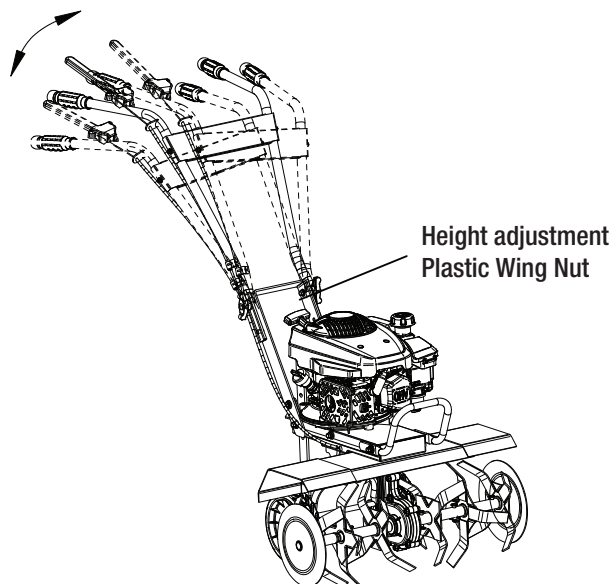

Figure 1-8.
- To adjust the tiller height, loosen the plastic wing nut, select the appropriate hole for height and tighten. See Figure 1-8.